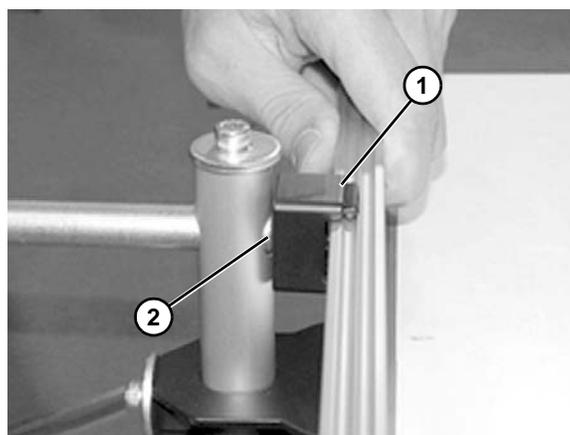

Figure 37
5. Reassemble clip (**Figure 37, item 1**) and attach to shaft (**Figure 37, item 2**). Tighten screw (**Figure 34, item 1**) on end of shaft.